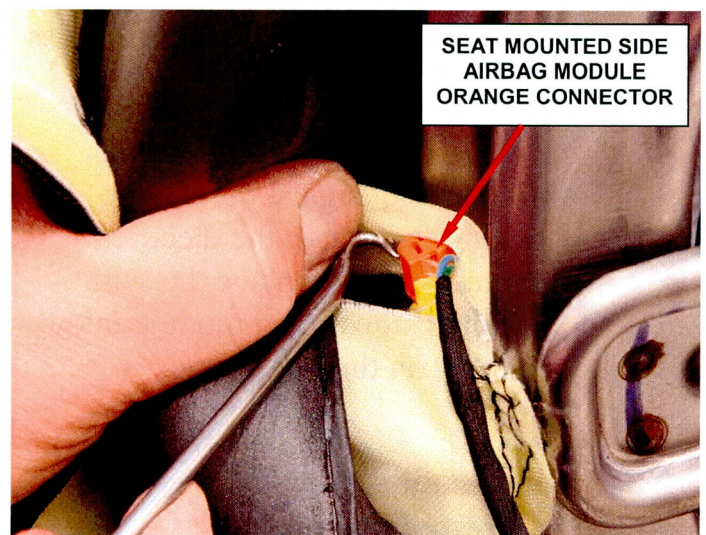

Figure 8 – Orange Airbag Connector
21. Carefully lift the seat airbag module orange electrical locking device and then disconnect the yellow module electrical connector (Figure 8).